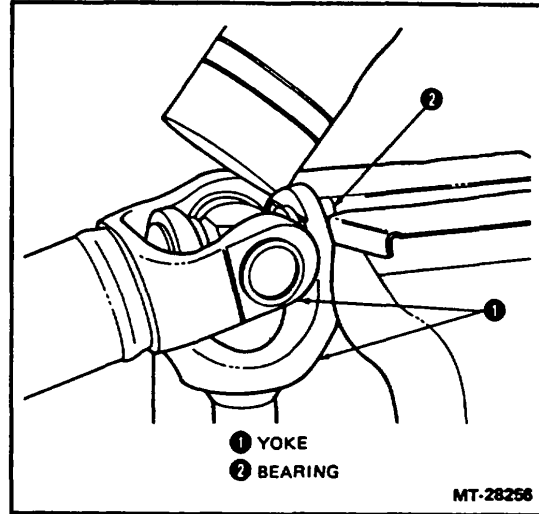
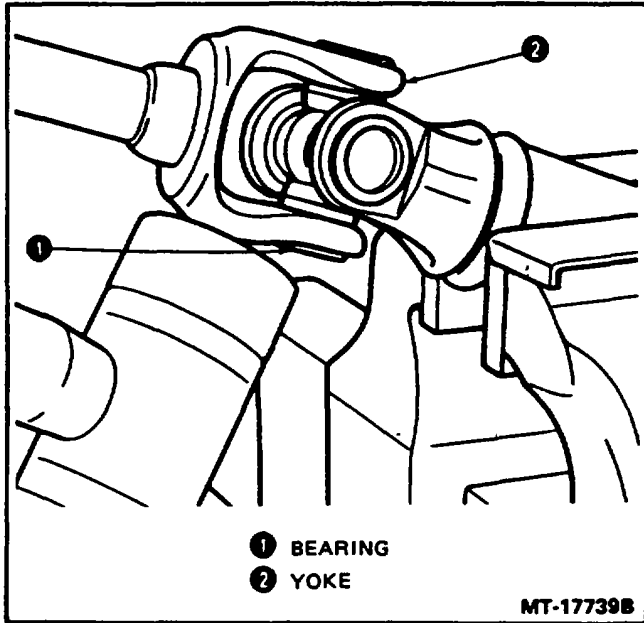

Figure 12 -- Bearing Removal
Figure 11 - Bearing Removal
2. Place the shaft assembly in a vise as shown in Figure 11. Tap the yoke with a soft hammer beside the bearing that is being removed. The bearing should come out. If the bearing does not come out, place the bearing in a vise. Use copper jaw covers on vise. Tap the yoke away from the bearing as shown in Figure 12.